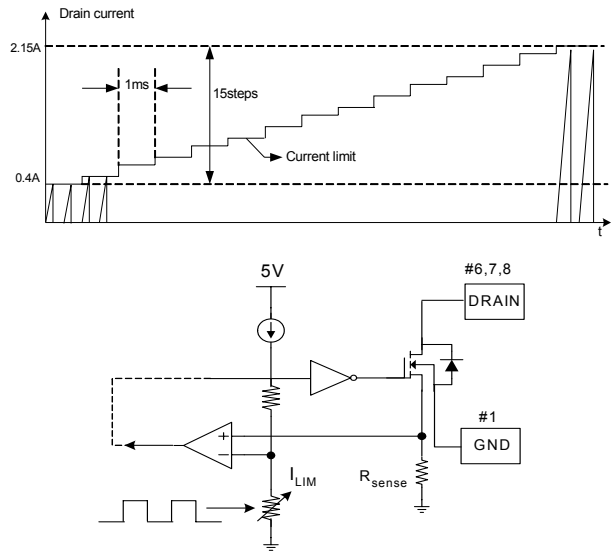

Figure 7. Soft Start Function
**5. Soft Start :** The FPS has an internal soft start circuit that slowly increases the feedback voltage together with the Sense FET current after it starts up. The typical soft start time is 15msec, as shown in Figure 7, where progressive increments of the Sense FET current are allowed during the start-up phase. The pulse width to the power switching device is progressively increased to establish the correct working conditions for transformers, inductors, and capacitors. The voltage on the output capacitors is progressively increased with the intention of smoothly establishing the required output voltage. It also helps to prevent transformer saturation and reduce the stress on the secondary diode.